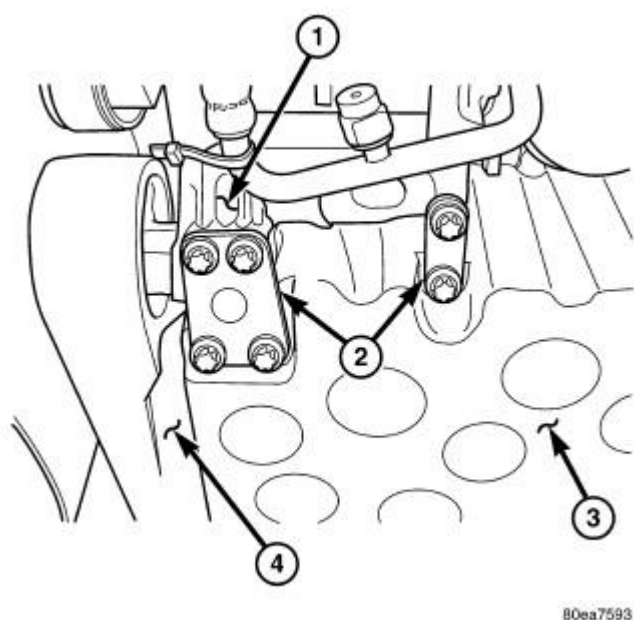

Fig. 198: A/C Compressor Mount to Oil Pan Brackets
11. Remove A/C compressor mount (1) to oil pan brackets. See **Fig. 198**.
12. Remove lower torque strut (4). See **Engine/Engine Mounting/STRUT, Torque - Removal**.
5. Install lower torque strut (4). See **Engine/Engine Mounting/STRUT, Torque - Installation**.
6. Install A/C compressor mount (1) to oil pan brackets. See **Fig. 198** . Torque bolts to 20 N.m(177 lbs. in.).